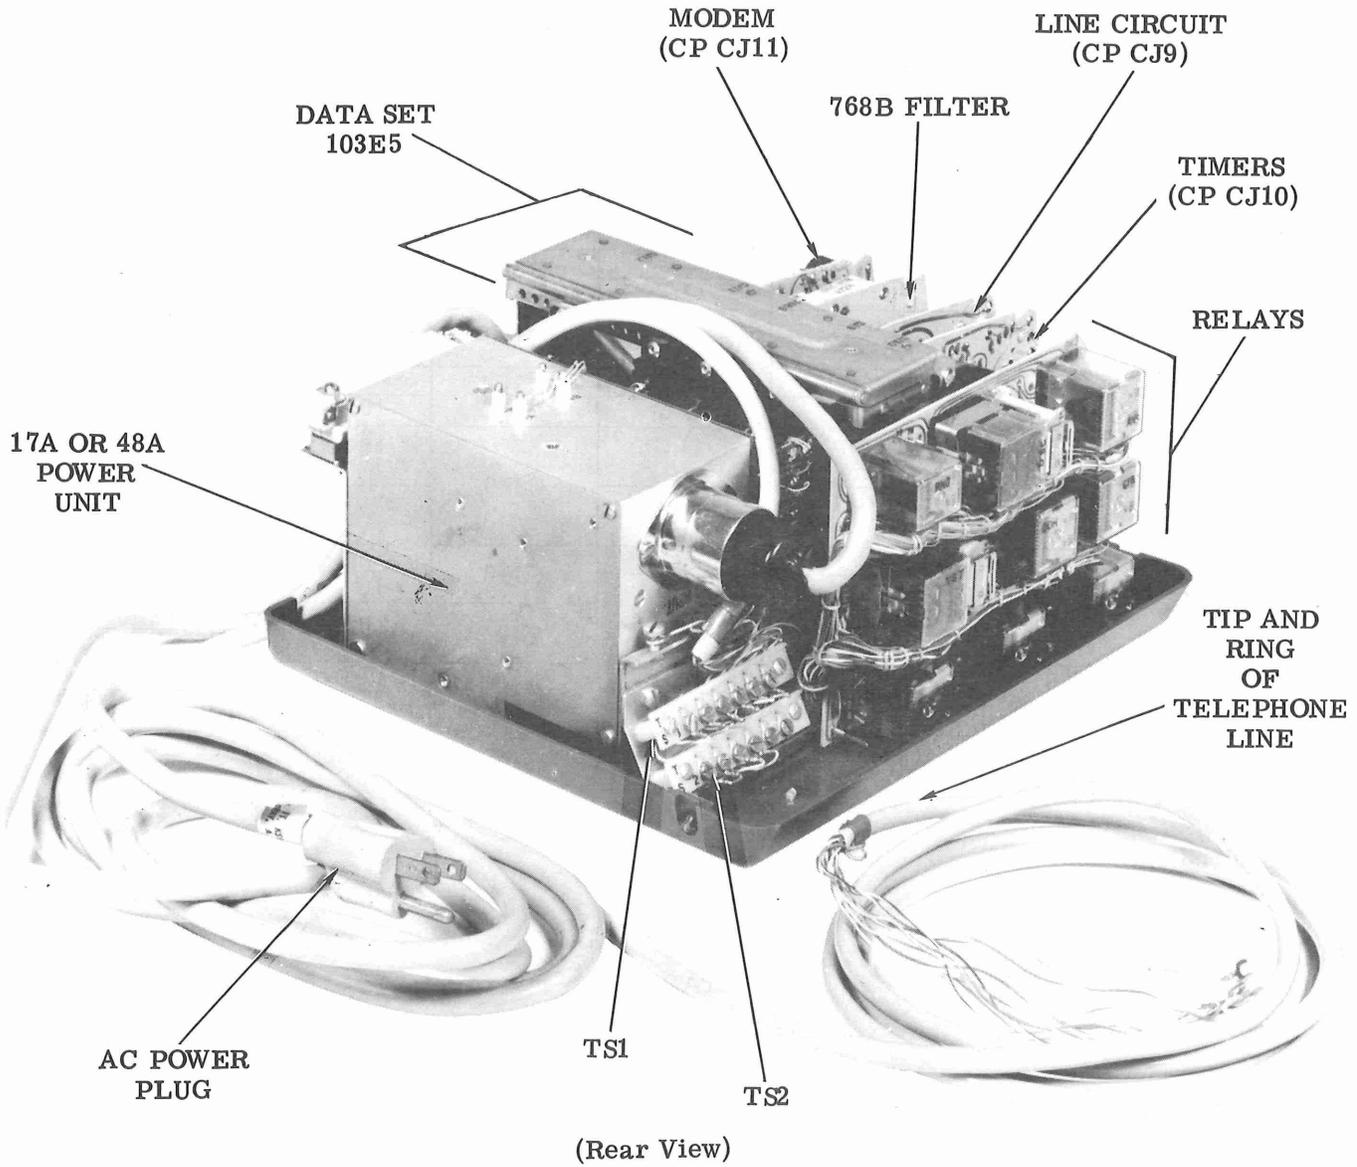

Figure 12 - Data Set 103H1 (Cover Removed)
2.11 Verify that the proper options are installed in Data Set 103H1 (Figure 12). Required options for the installation should be specified on the service order and/or work sheet. The available features or options for Data Set 103H1 are shown in Table E.
(7) Set the function switch of KS-14510 L1 volt-ohm-milliammeter (VOM) or equivalent VOM to 3 volts ac.
(8) Connect the VOM test leads between terminals 10 and 13 on CP CJ9 of the data set (Figure 12).
(10) Verify that AUTO key is released (AUTO lamp is extinguished). If AUTO lamp is lit, operate AUTO key.
(11) Operate DATA key; DATA lamp should light and dial tone should be heard in loudspeaker.
(12) Dial telephone number of the 900-ohm terminating trunk in the serving central office.
(13) When connection is established, operate DATA key and hold it operated.
(14) Operate TEST key. Hold DATA key operated, release TEST key, and then release DATA key.
(15) Using a screwdriver, adjust R34 on CP CJ11 (Figure 12) for the f_2 RMS voltage reading associated with the 1000 Hz measured loss value in (3).
(16) At completion of R34 adjustment, operate CLEAR/TALK key.
(17) Remove test leads from CP CJ9 and operate circuit breaker (CB101) to the OFF position.